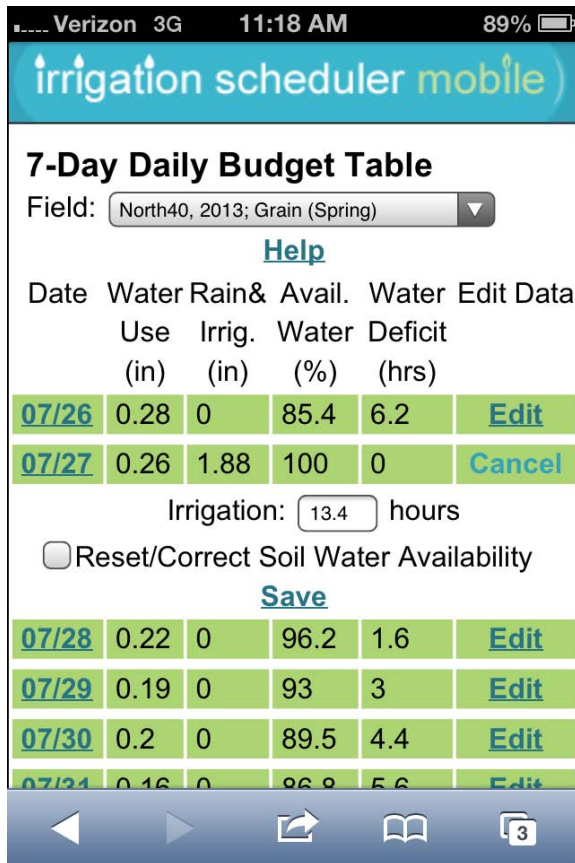

Figure 11. Edit button expands table for inputs.
**Edit Data:** Clicking the Edit link on that day expands the screen to accept inputs for that day as shown in Figure 11. From here you can add or edit irrigation amounts (Figure 11), or reset or correct the soil water availability to make it better match reality based on observations or soil moisture measurements. Click **Cancel** closes the table up again. You must click **Save** for these changes to be applied.